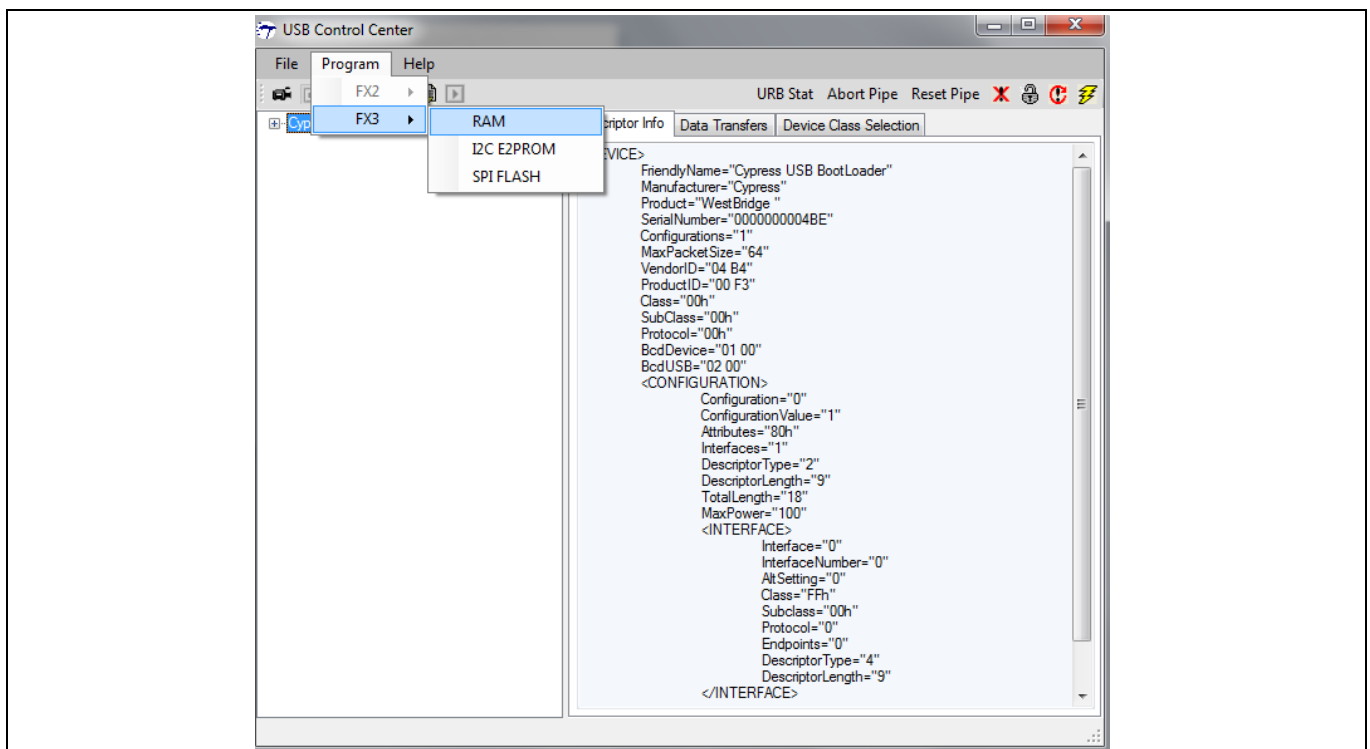

Figure 17 Select the device from the control center
4. In the Control Center, select the FX3™ device by choosing **Program > FX3 > RAM**, as shown in Figure 17.